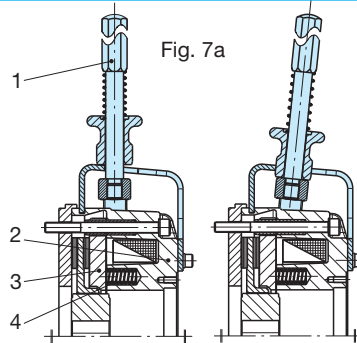

Fig. 7a
- Lockable hand release, Fig. 7a/7b
In de-energised condition, the brake with lockable hand release can be released manually. By deflecting the hand release rod (1), the armature disk (3) is pushed against the thrust springs (4) onto the coil carrier (2) and the braking torque is removed, Figs. 7a and 7b.